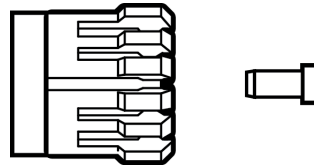

Figure 11. Removing the Rubber Nail from the Sealing Insert
2. Remove the rubber nail from the sealing insert. See Figure 11.